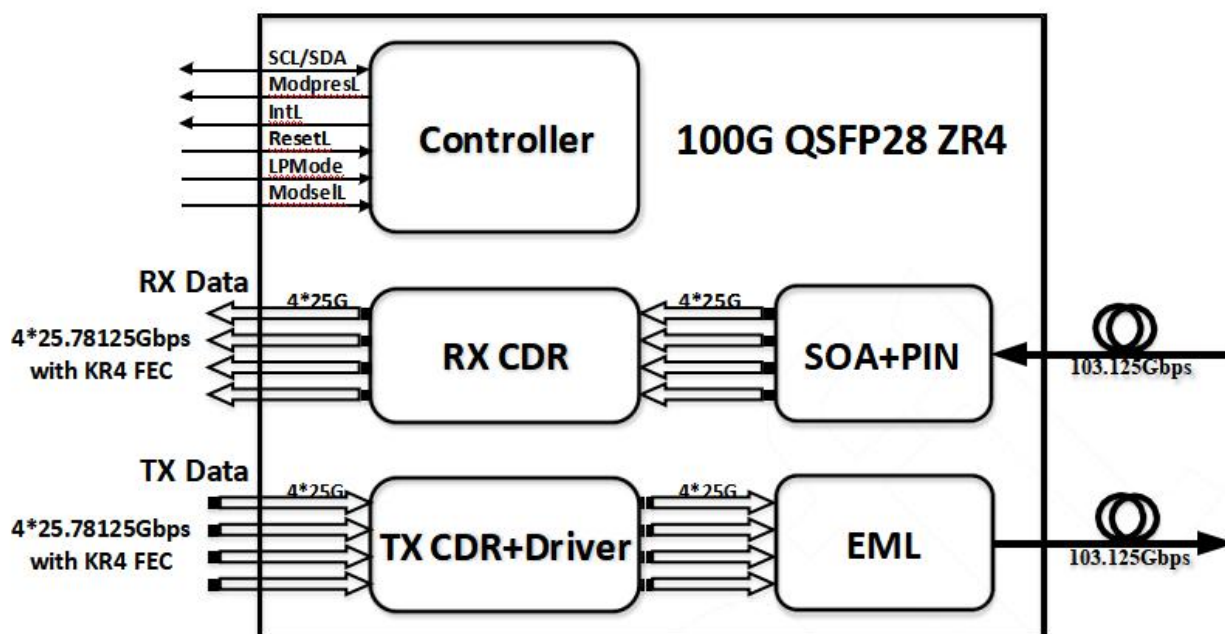

Figure 1. Transceiver Block Diagram
- ✧ TIBTRONIX's T8PLHGA0D is designed for 100km optical communication applications. This module contains 4-lane optical transmitter, 4-lane optical receiver and module management block including 2 wire serial inter-face. The optical signals are multiplexed to a single-mode fiber through an industry standard LC connector. A block diagram is shown in Figure 1.